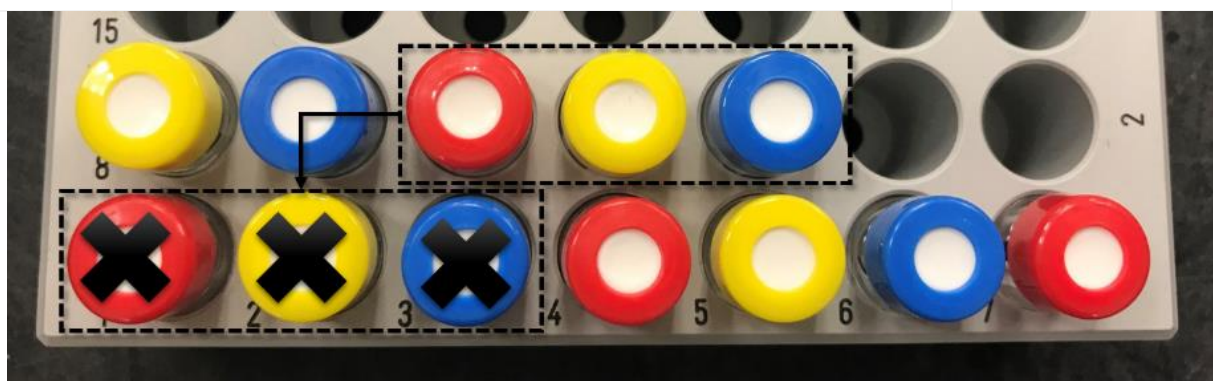

Figure 182. Replace Broken Validation Vials from Back - Follow Color Cap Pattern.
STEP 1 | If validation vials break in the tray during shipping/handling; replace the broken vials with the identical color cap vials from the end of the tray. Follow the color pattern and use the last three vials on the tray to replace the broken vials as needed (**Figure 182**). Ensure there are no empty spots in the ordering; adjust vials accordingly to follow the color pattern. See below for more information.